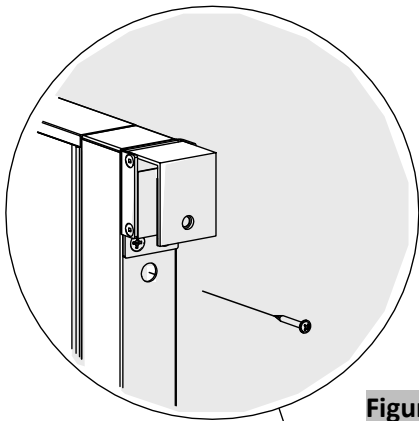

Figure 3
- 3. Securely fasten the sliding door post on side of the panel, (Figure 3).